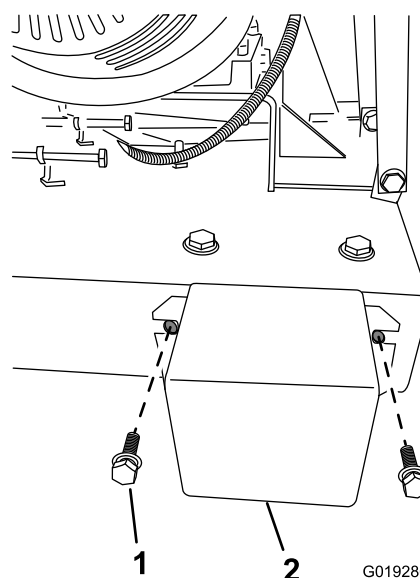

Figure 33
- C. Remove the bolts and washers that secure the shaft guard to the base of the machine, and remove the guard (Figure 33).